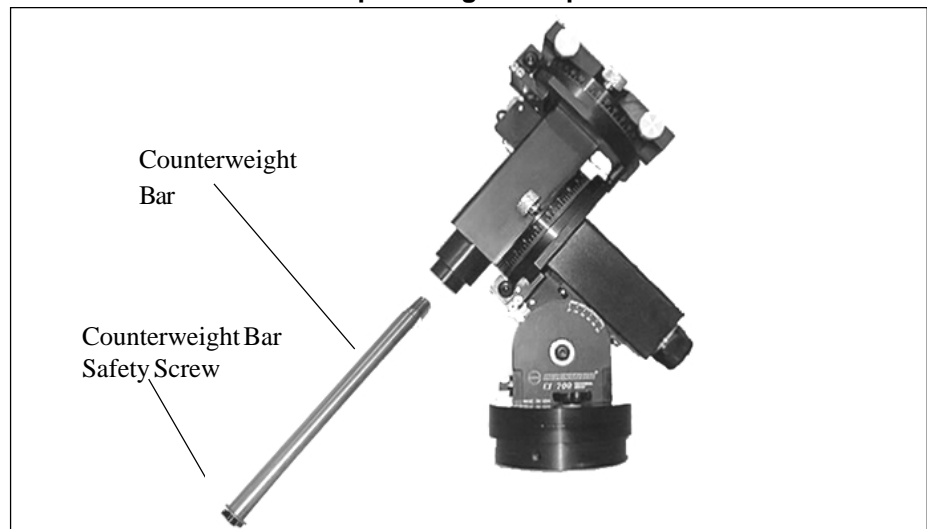

Figure 2-6
1. Locate the opening in the equatorial mount on the DEC axis (see figure 2-6). It is opposite the telescope mounting platform.